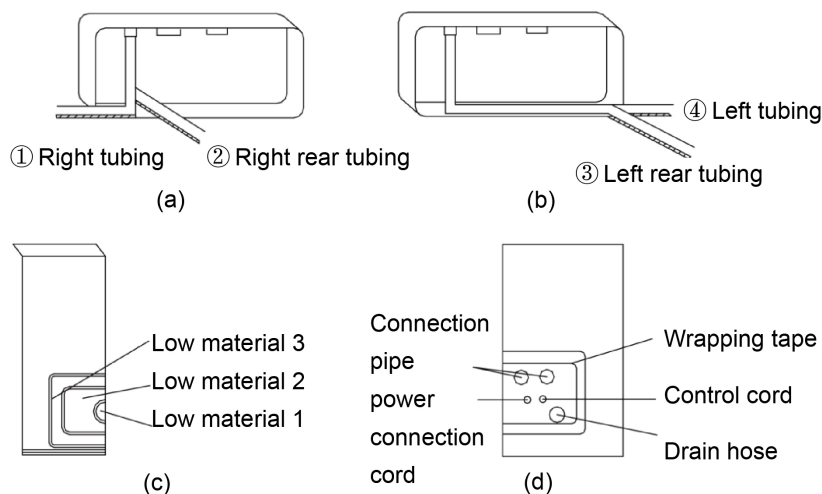

Fig 5.6
- (1) When routing the piping and wiring from the left or right side of the indoor unit, it is necessary to cut off the tailings of the pipe left on the holder of the unit. (Shown in Fig.5.6)
- (2) Let the tubing and cord pass through the piping hole after tied up (refer to Fig .5.6 (d)).
- (3) Hang the claw behind the indoor unit on the pothook on the wall panel, and move the unit left and right to check if the body is firm.
- (4) Guarantee that the installation height of the indoor unit should be 2.5m above the floor.